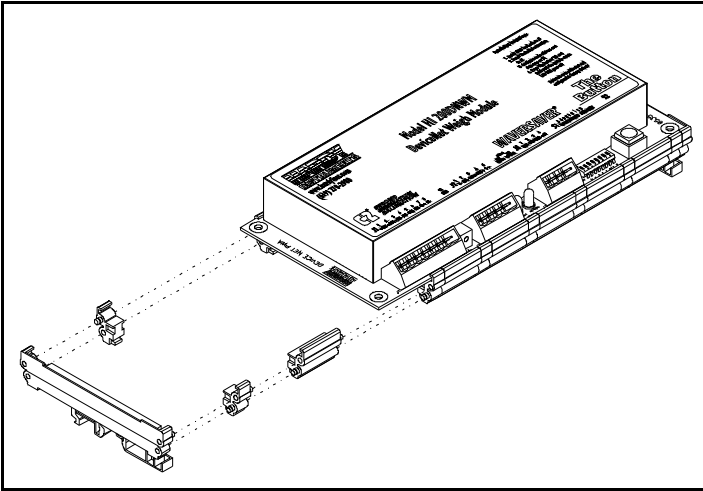

FIG. 3-7 INSTALLING THE WEIGH MODULE INTO THE ASSEMBLED DIN RAIL
- Step 4. Continue installing the rail pieces until all rail pieces are installed. (See Fig. 3-7)
- Step 5. Gently slide the HI 200DNWM into the assembled DIN Rail until the board is flush against the other end piece. (See Fig. 3-7)
- Step 6. Take the other assembled end piece and snap it into the rail pieces. (See Fig. 3-7)